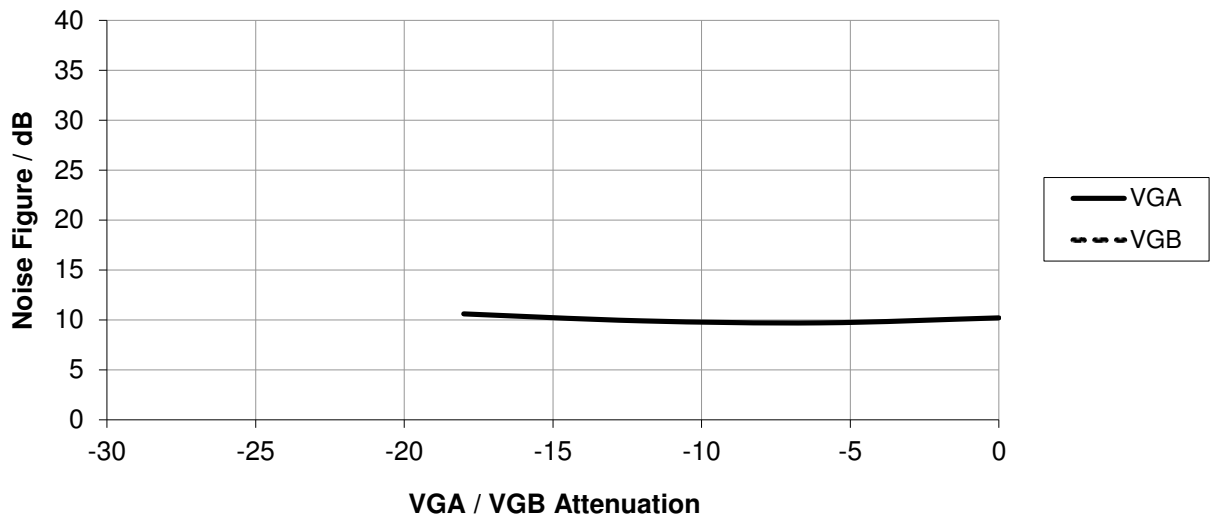
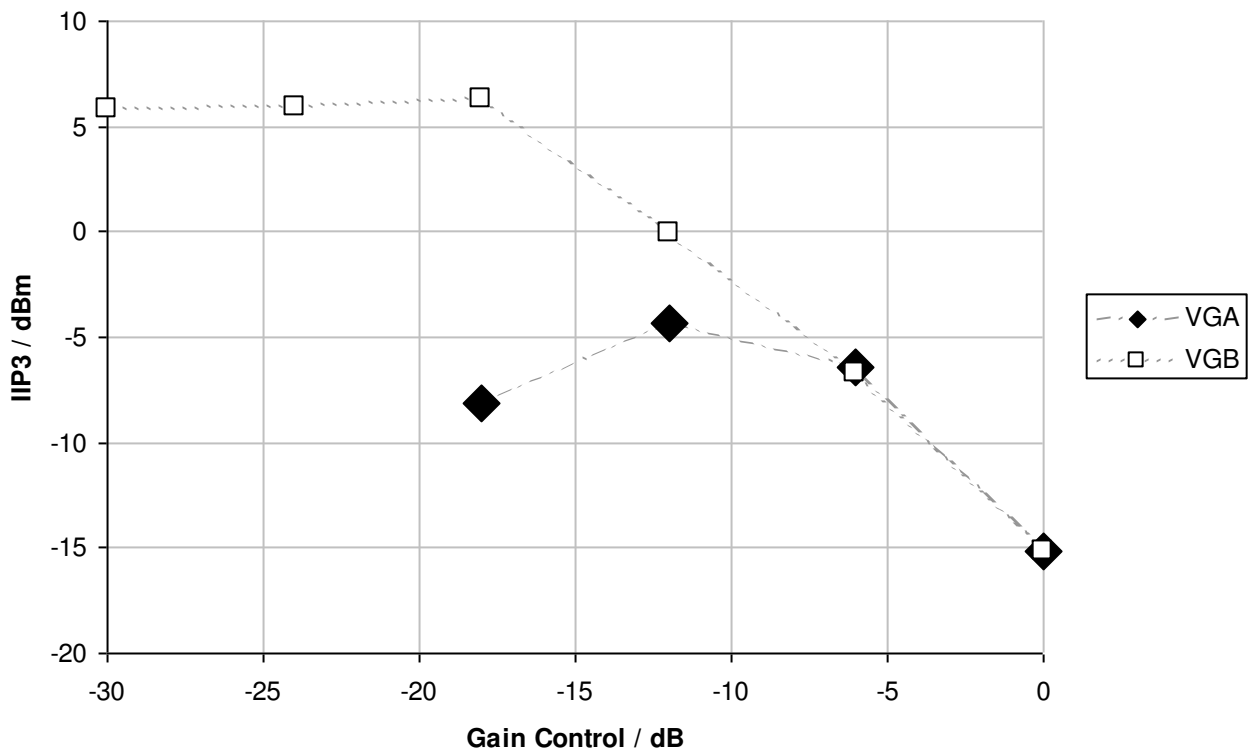

Figure 11 Variation in CMX970 Demodulator Noise Figure with VGA/VGB Control
Figure 12 Variation in Input Third Order Intercept Point with VGA/VGB Control
The control of gain using VGA and VGB has an impact on the performance of the CMX970 demodulator. The variation in noise figure (NF) is straight forward, with the IF gain control (VGB) having a direct impact on NF but, due to the gain before the I/Q section, VGA has little impact on NF (see Figure 11). The variation of intermodulation (IMD) is more complex, as shown in Figure 12, where performance is characterised by 'Input Third Order Intercept Point' (IIP3). At maximum gain IIP3 is at a minimum and, as would be expected, the IIP3 increases as the IF gain is reduced (VGB). The improvement reaches a plateau beyond the -18dB gain setting as the input stages limit performance at this level. Reduction in gain with VGA (I/Q gain control) also has a positive effect on IIP3. This is perhaps less intuitive but indicates that the intermodulation performance of the CMX970 demodulator chain is dominated by the output stages rather than IF or mixer stages. Thus -6dB or even -12dB VGA gain control settings can be used to achieve improved IMD performance for negligible change in noise figure (Figure 11), as long as the reduction in gain can be tolerated.